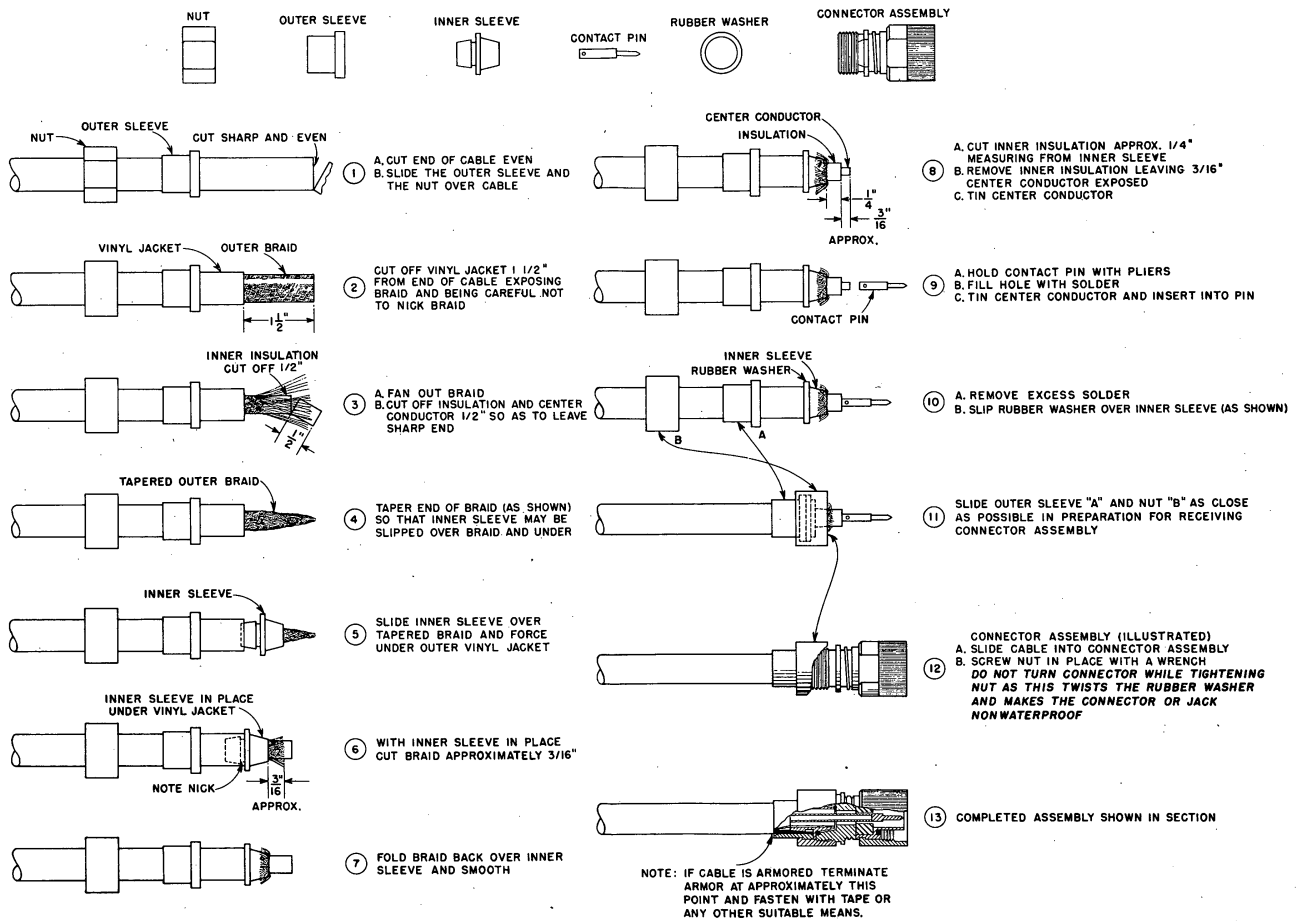

Figure 3-27. R.F. Connector, Type UG-21/U Assembly to R.F. Cable, Type RG-10/U or RG-12/U
(2) Three low power r-f cables connect to the Transceiver. They are used to conduct i-f energy from the Monitor Receiver to the Console Receiver; to conduct r-f energy from the Echo Box Antenna to the Echo Box; and to conduct the Sync pulse from the Transceiver to the Indicator Console. These cables connect to three type UG-22/U jacks located on a panel behind the door in the lower left-hand corner of the Unit. These cables are brought into the terminal compartment of the Transceiver through an access hole provided in the floor of the unit, adjacent to the terminal area. The method of connecting the UG-21/U connectors to the type RG-10/U or RG-12/U coaxial cables is shown in Fig. 3-27.
(1) A type RG-10/U coaxial cable is used as the transmission line between the Echo Box Antenna and the Transceiver. The same type of connector is used at both ends of the cable. This connector is a type UG-21/U, and it should be fastened to the cable as directed in Fig. 3-27. The transmission cable should be firmly clamped to some rigid support at frequent intervals in order to prevent damage to the cable.